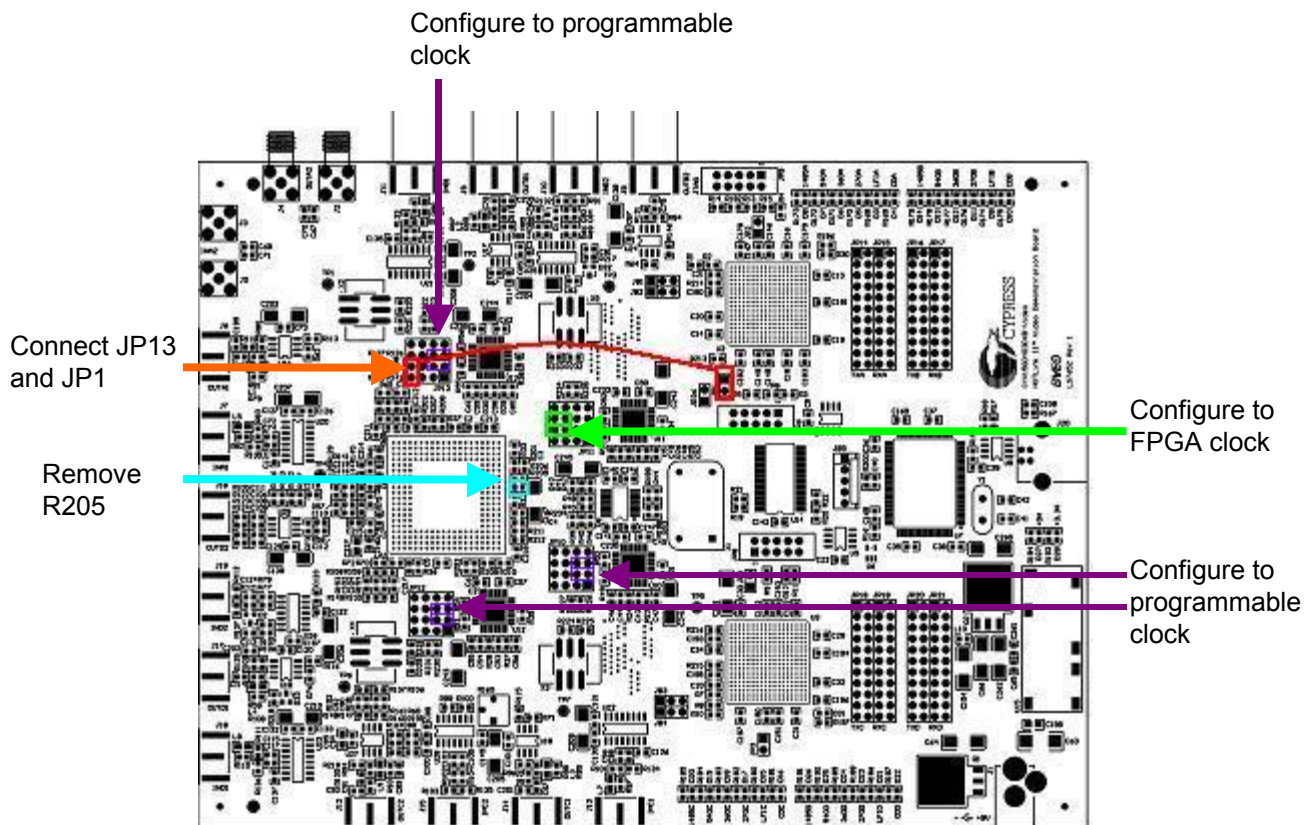
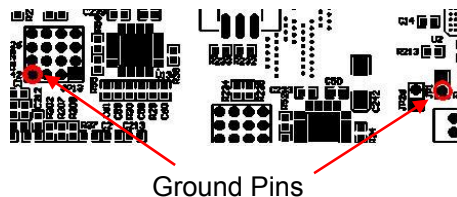

Figure F-2. Upconversion Board Modifications
Figure F-3. Ground Pin Location
1. Connect JP13 (FCLKB+) and JP1 (RXCLKA+) as indicated in *Figure F-2*. Refer to *Figure F-3* for location of the ground pins. RXCLKB+ is connected to the first PLL in FPGA(U2), while the output of the PLL is internally connected to FCLKB+. By connecting JP13 and JP1 as indicated, the output of the first PLL (FCLKB+ output pin) is sent to the input of the second PLL (RXCLKA+ input pin) in FPGA(U2).